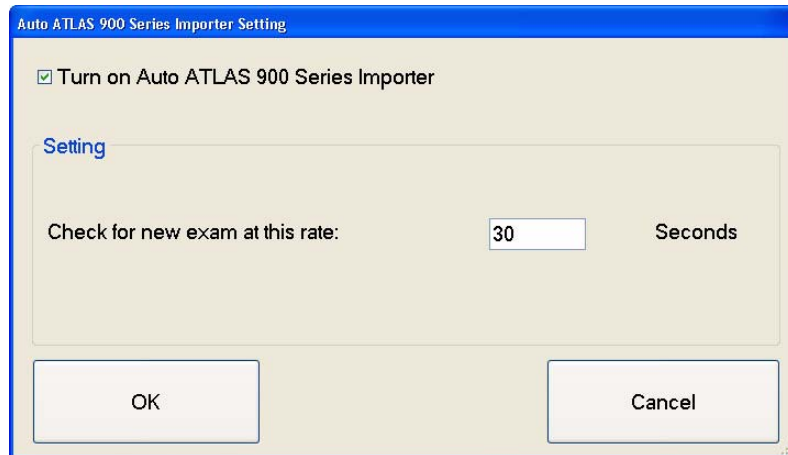

Figure 11-15 Auto 900 Series Importer Setting Dialog
1. While in patient selection mode, click **Options > Auto ATLAS 900 Series Importer Setting**. The Auto ATLAS 900 Series Importer Setting dialog appears (Figure 11-15).